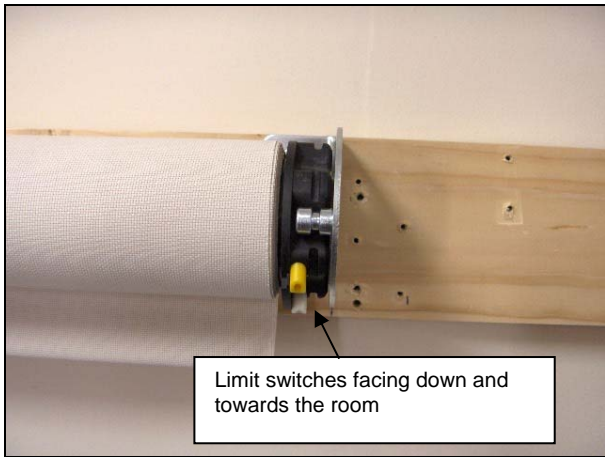

Figure 13 Motor in Bracket
- Allow the shade to slide back so that the star head on the motor engages the pins on the motor bracket. See Figure 13.